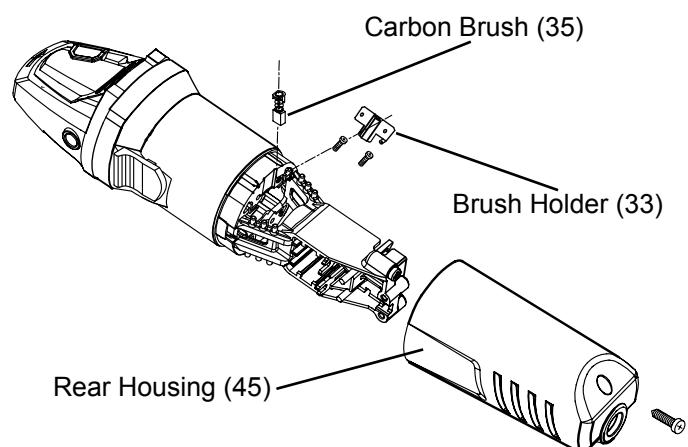

Figure 2 – Brush Replacement
- a. To replace brushes, remove Screw from center of Rear Housing (45) and slide the Housing off. See Figure 2.
- b. Loosen Screws holding Brush Holder (33) in place. Then remove Carbon Brush (35) from Holder.